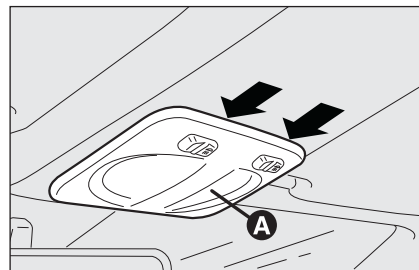
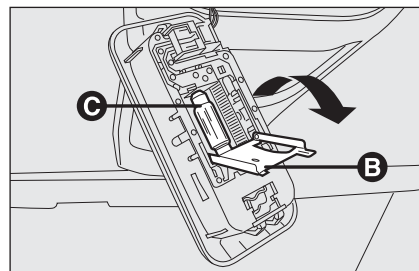

fig. 32
fig. 33
- ☐ replace bulb **F-fig. 33** by releasing it from the side contacts and making sure that the new bulb is correctly clamped between these contacts;
- ☐ manipulate the points shown by the arrows and remove light **A-fig. 32**;
- ☐ replace bulbs **C-fig. 33** by releasing them from the side contacts and making sure that new bulbs are correctly clamped between these contacts;
- ☐ close the lid **B-fig. 33** and secure light **A-fig. 32** into its housing making sure that it locks into place.